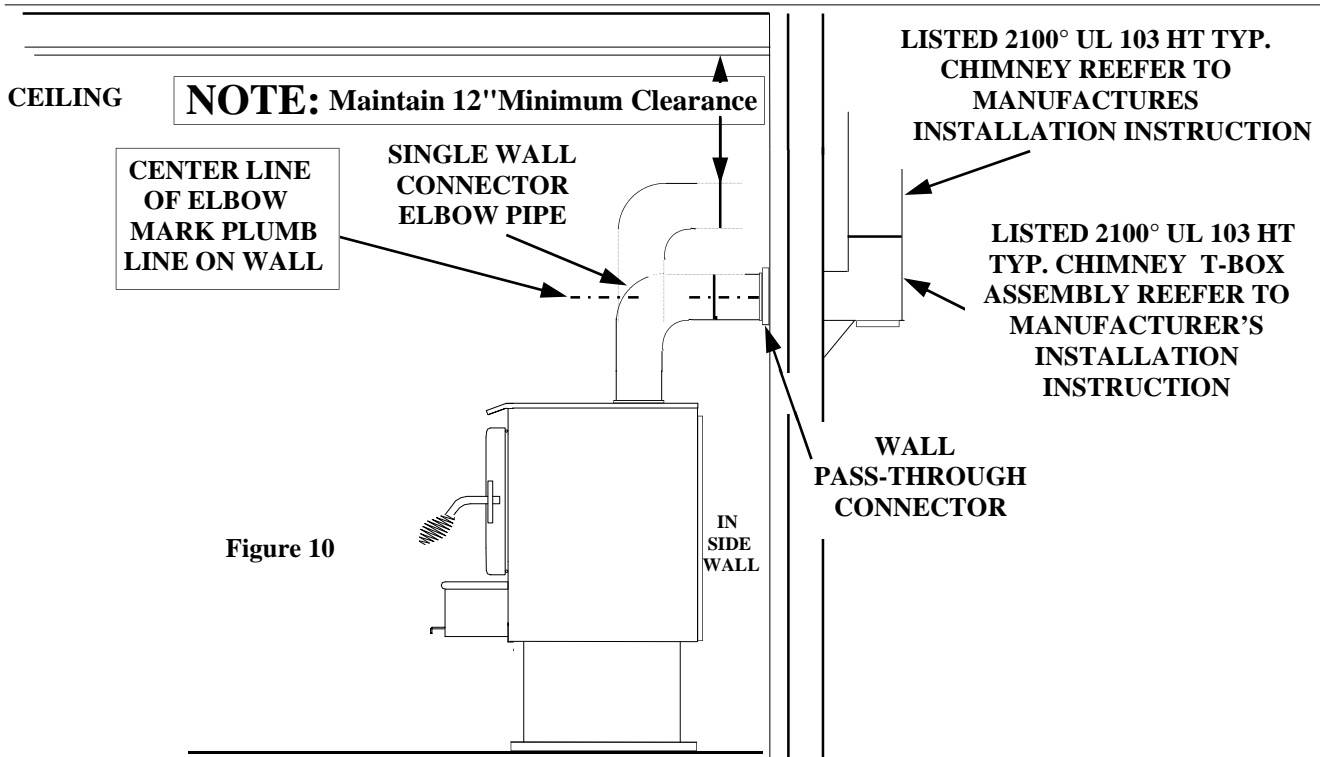

Figure 10
(See Page 18, Figure 10).
3. Measure up so there will be at least 1/4" rise per foot of horizontal connector pipe, maintaining clearances to ceiling as noted in (Page 18, Figure 10). This will give you center of hole for the chimney penetration.
5. Connect chimney collar to tee-box using 6" Single Wall minimum 24 ga. blued or black pipe. (DO NOT USE GALVANIZED PIPE). Connect each section so crimped end faces downward and secure each section to each other using three (3) sheet metal screws or rivets. Single wall pipe is to be connected with three (3) sheet metal screws rivets to connector collar on heater. (See Page 18, Figure 10).